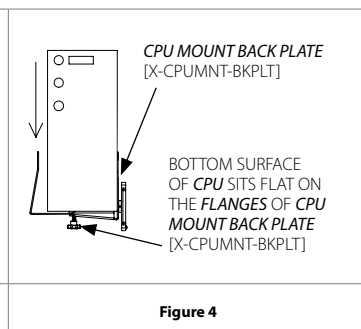

Figure 4
2. Slide the *CPU MOUNT FRONT PLATE* to its outer most position and carefully mount the *CPU* into the allocated space. Ensure the bottom of the *CPU* sits flat on the flanges on the *CPU MOUNT BACK PLATE*. (Figure 4)